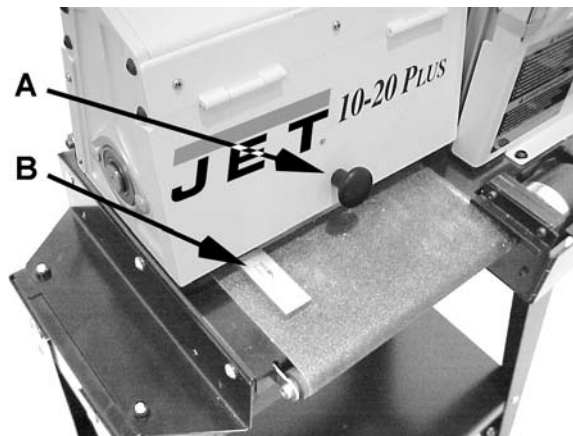

Figure 6
1. Lift the *knob* (A, Fig. 6) to open the dust cover and remove the abrasive strip. If you are unsure how to do this, see the "Wrapping Abrasive Strips" section in this manual.
2. Using a metal straight edge, or ruler, as a thickness gauge (B, Fig. 6), insert the gauge between the drum and the conveyor bed on the outer end of the drum.